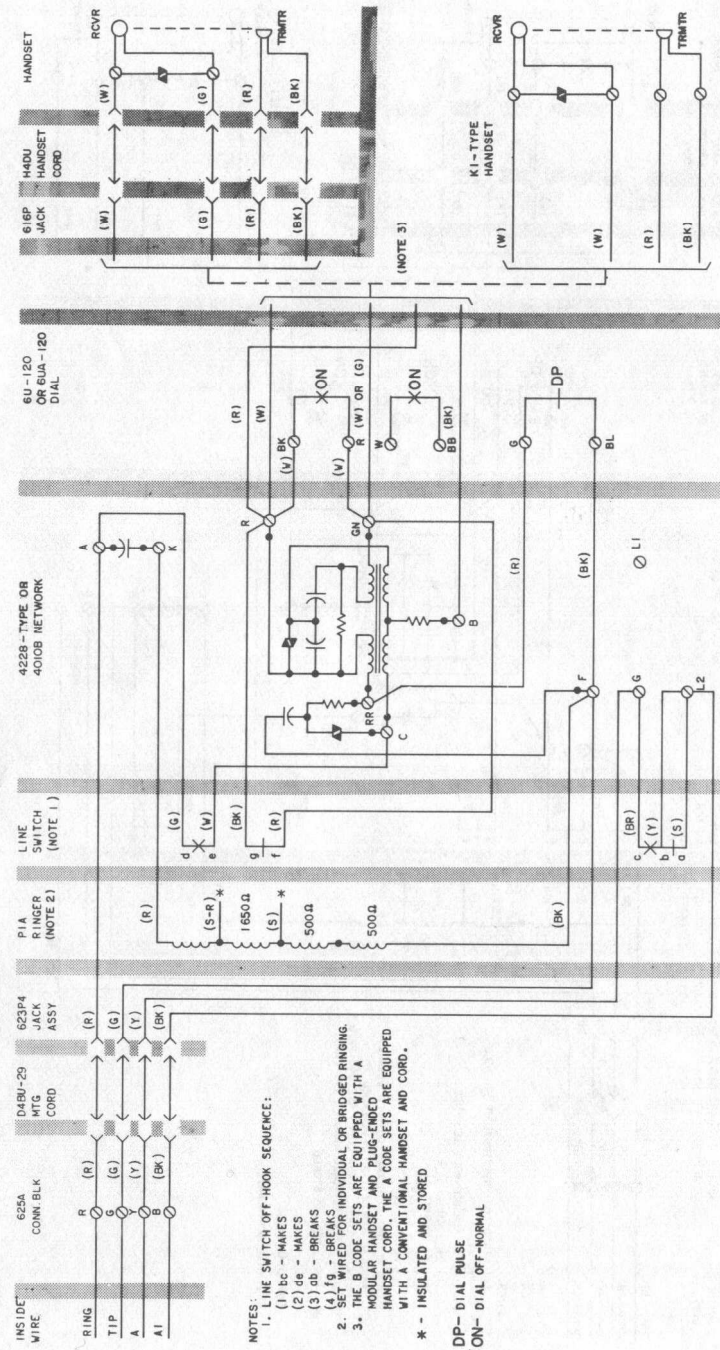

Fig. 10—881A102, 881B102, 881A103, 881B103, 881A104, or 881B104 Telephone Set Wired for 1A1 or 1A2 KTS
3.04 Connections for use with 1A1 or 1A2 KTS are shown in Fig. 10. Table C includes necessary wiring modifications required for 1A1 or 1A2 KTS use.